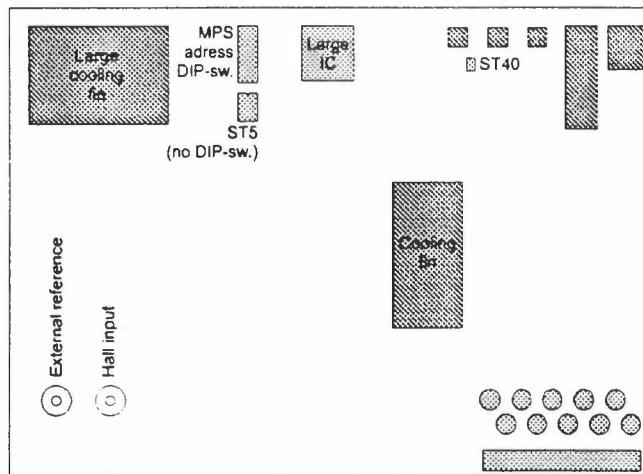
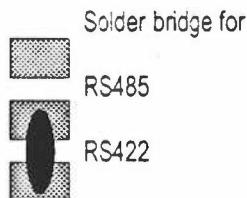

Fig. 2.4-3 The MPS front panel pc-board
Fig. 2.4-5 The RS422/485 solder bridge
5. If used: connect the optional Hall element and/or external reference cable to their respective connectors on the backside pb-board of the front panel, see Fig. 2.4-3 on the next page.
4. Localise the MPS DIP-switch (shown on the top of Fig. 2.4-3).
The selection of the communication system is determined by the solder strap ST40 in the upper right corner of Fig. 2.4.3 above. The default position is RS422 shown on Fig. 2.4-5 below: